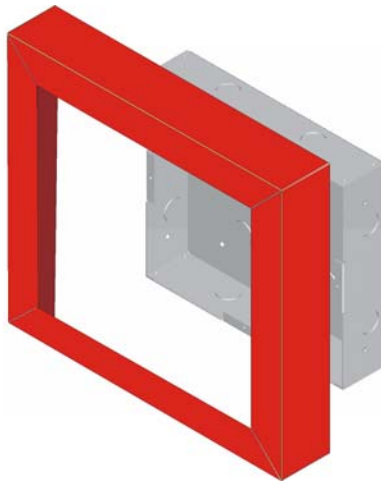

Figure 4-13 Installing Trim Ring
- Place the trim ring over the back box as shown in Figure 4-13.